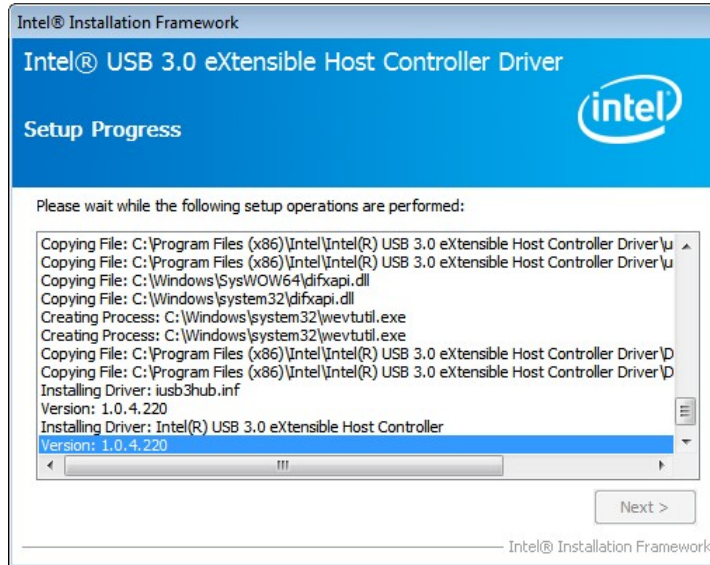

Figure 6-30: USB 3.0 Driver Setup Operations
Step 11: Setup Operations are performed as shown in Figure 6-30.